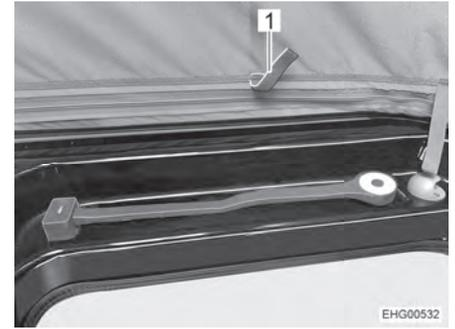

Fig. 64 Goose neck lamp, transport position
- Return goose neck lamp from operating position (Fig. 63) to transport position (Fig. 64).
- Pull in the canvas by the tabs (Fig. 64,1) provided for this purpose.